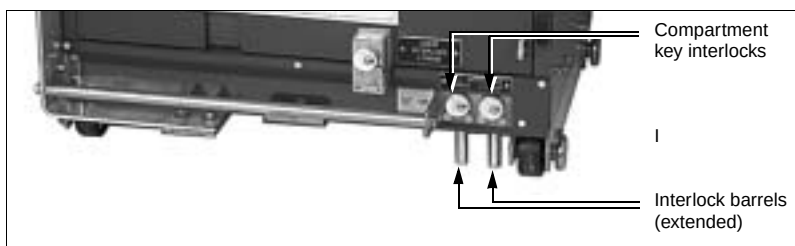

Figure 40: Circuit Breaker Compartment Key Interlocks with Access Doors Closed (Interlock Barrels Extended)
4. Insert interlock keys into the compartment key interlocks located at the base of the G&T device (see Figure 40).